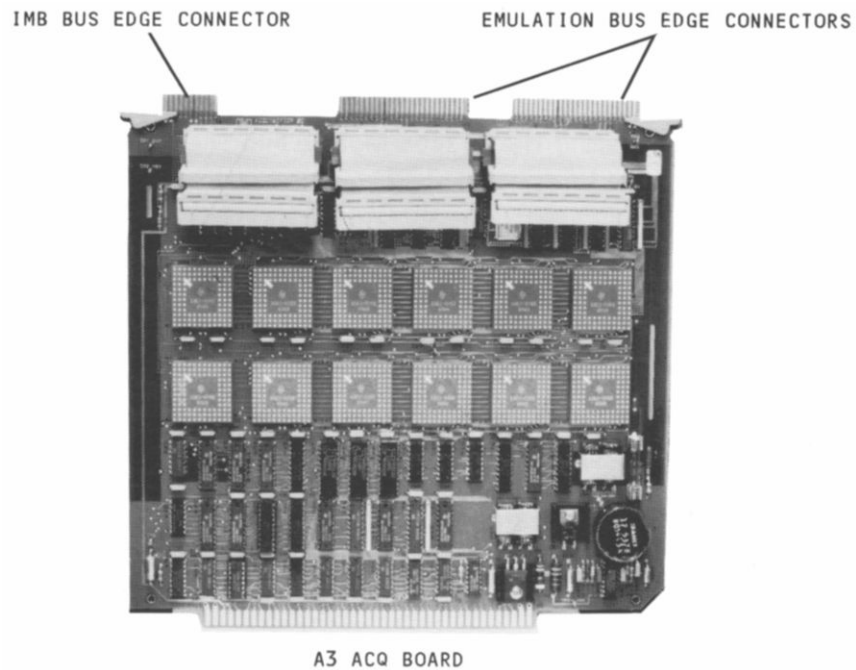

Figure 2-2. Connecting The Interconnect Cables To The Acquisition Board
3. Connect the three interconnection cables (W1) to J2, J3, and J4 of the Acquisition board (A3). See figure 2-2.